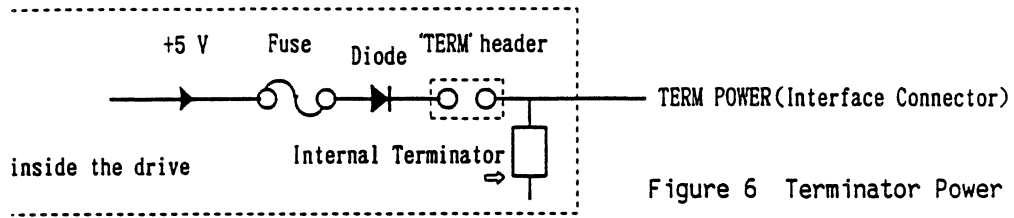

Figure 6 Terminator Power
- (2) The terminator power line has a 1A fuse within the drive to protect the power supply. This is shown in Figure 6.